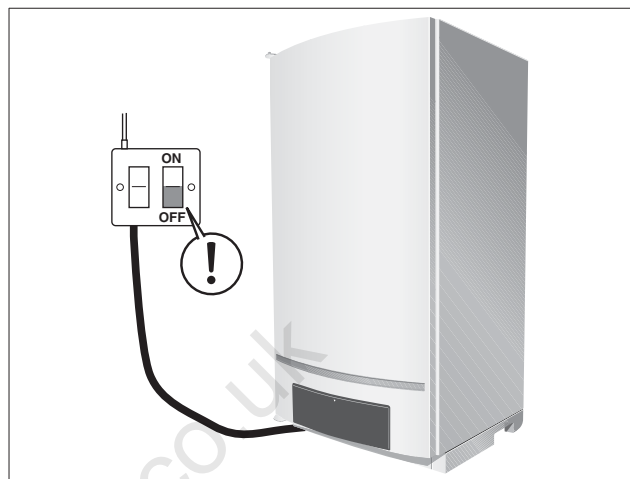

fig. 89 Switch off the power supply to the heating system
- Switch off the power supply to the heating system (fig. 89).